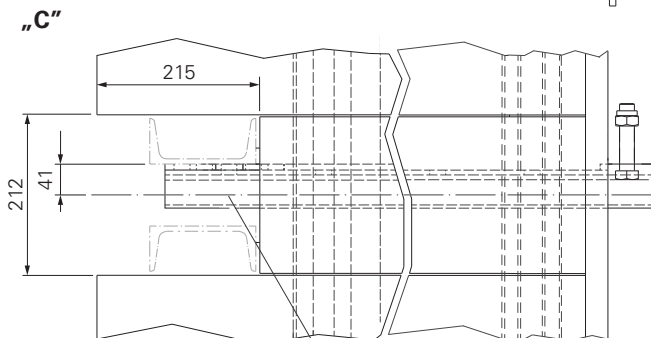

Fig. A1.22c
6. Cut out openings for the Strongbacks (5). (Fig. A1.22c)